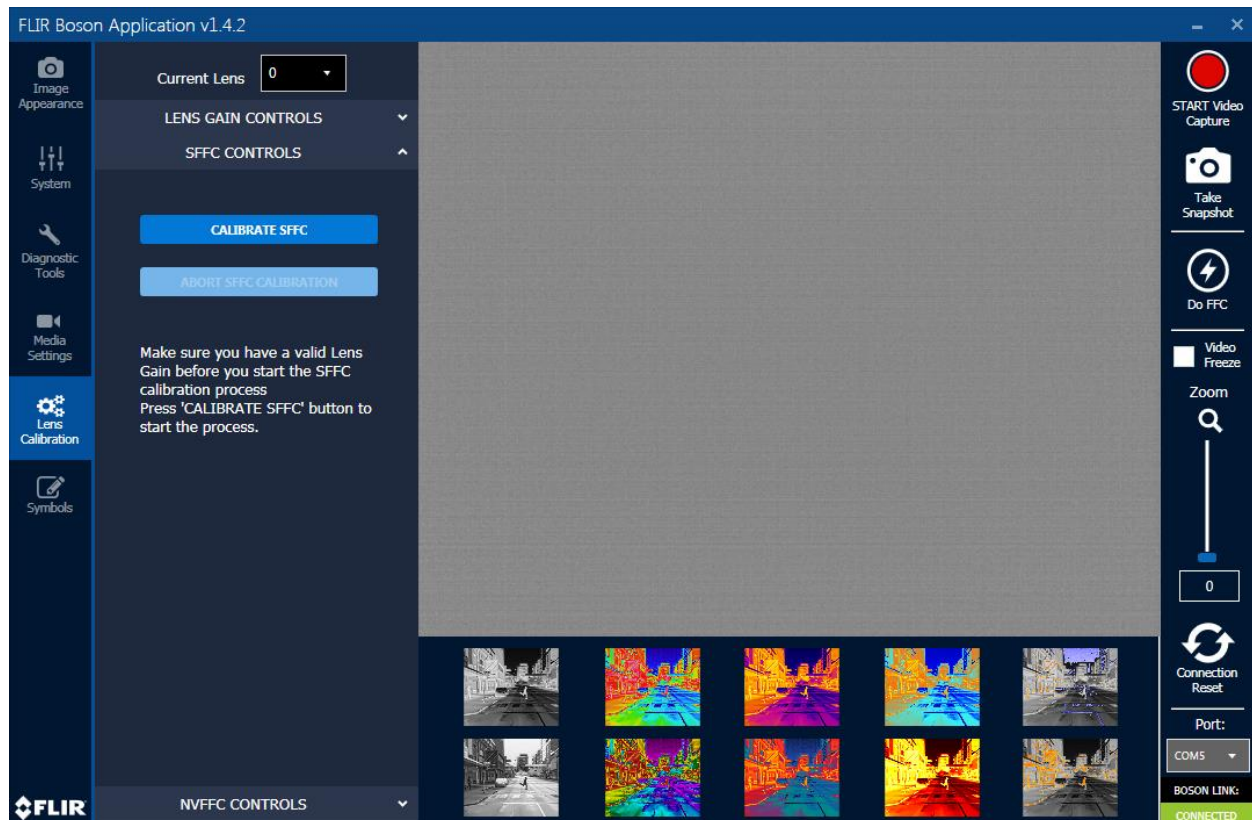

Figure 14. SFFC Procedure
- 3) Initiate the SFFC Calibration process by pressing the **CALIBRATE FFC** button shown in Figure 14.